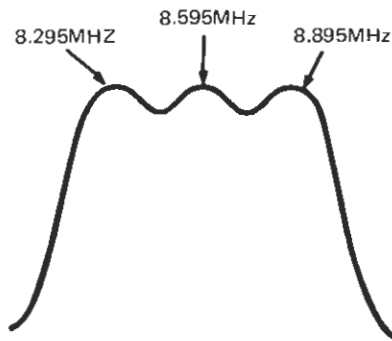

Fig. 3
3) Display the waveform (shown in Fig. 3) on the oscilloscope by adjusting T1, T2 and T3 on IF unit.